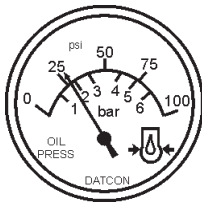

Figure 51. Oil Pressure Gauge
15. The engine oil pressure gauge (Figure 51) will indicate the oil pressure of the engine. Under normal operating conditions the oil pressure is approximately 35 to 65 psi. (241~448 kPa). When starting the generator